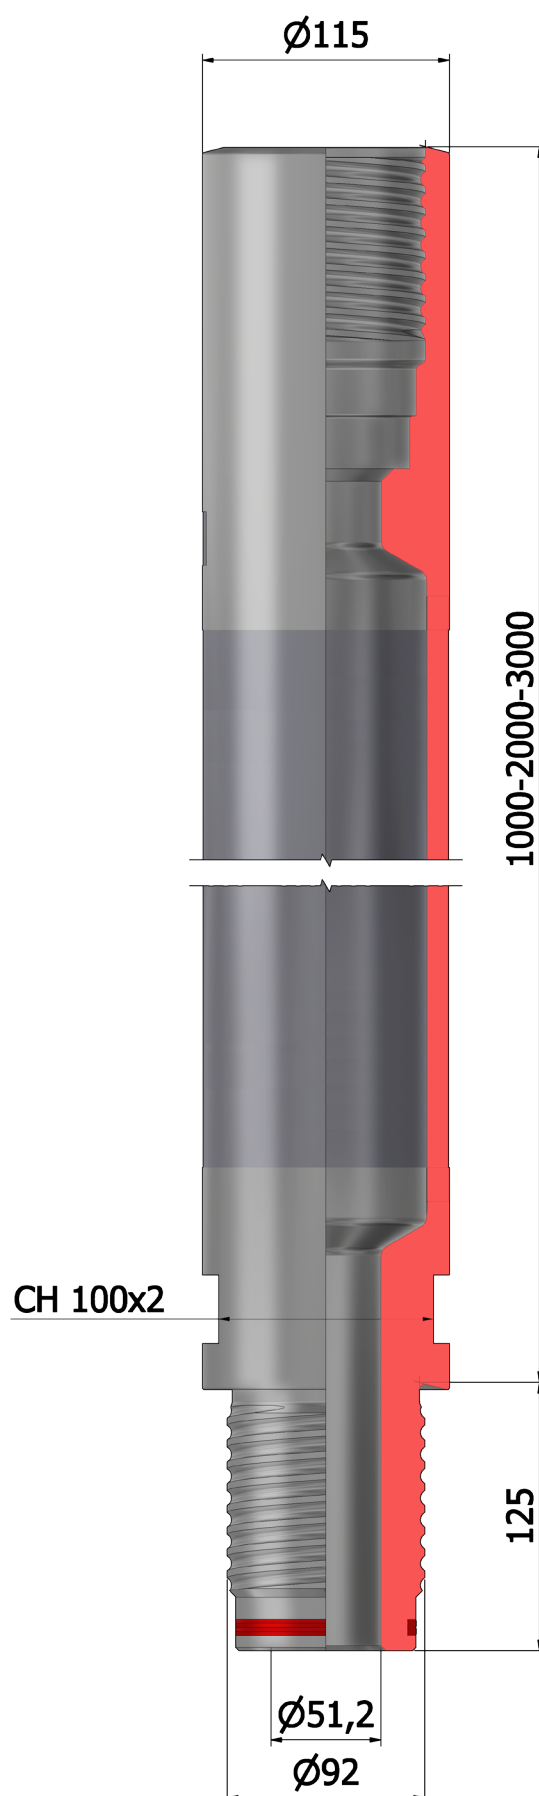

FIG. 3.6
D.114 JET RP ROD (REF. FIG. 3.6)